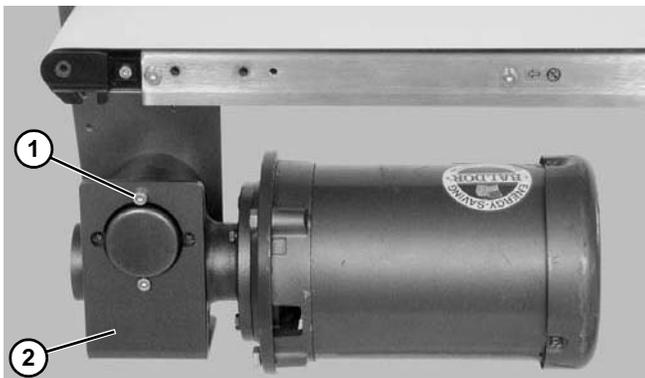

Figure 35
3. Remove two (2) bracket screws (Figure 35, item 1) and remove bracket (Figure 35, item 2).